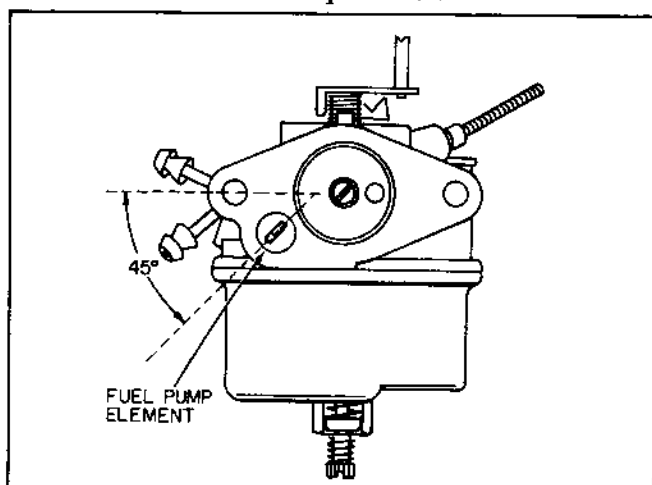

Figure 7-4. Placement of Pump Element in Float Carburetor
- (1) The Tecumseh float carburetor, with a built-in fuel pump, is very similar to the original Tecumseh float carburetor, with the exception of the addition of a Fuel Pumping Element and the two flap valves to control the direction of fuel flow. The pump element is inserted into an opening in the mounting flange end of the carburetor body, with the slot opening at a 45° angle (Figure 7-4). A gasket fits between mounting flange of carburetor and cylinder.